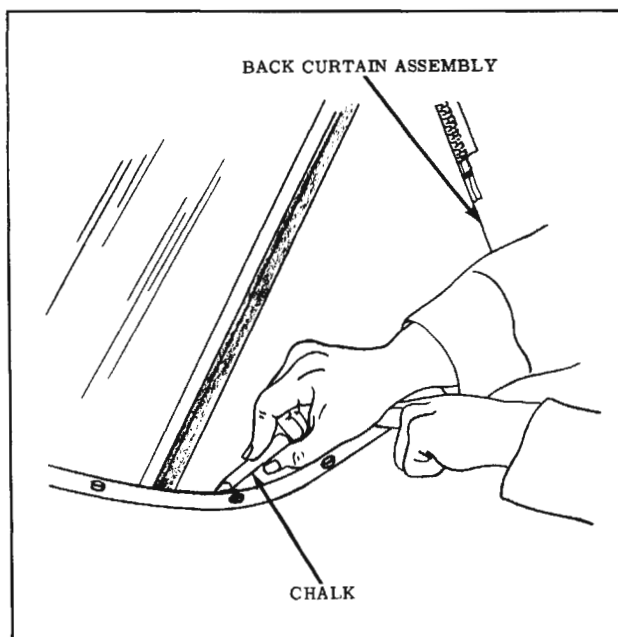

Fig. 16-126 Marking Back Curtain
18. Where required, place reference chalk mark on outer surface of back curtain along pinchweld finishing molding. Readjust back curtain assembly as required. (Fig. 16-126)